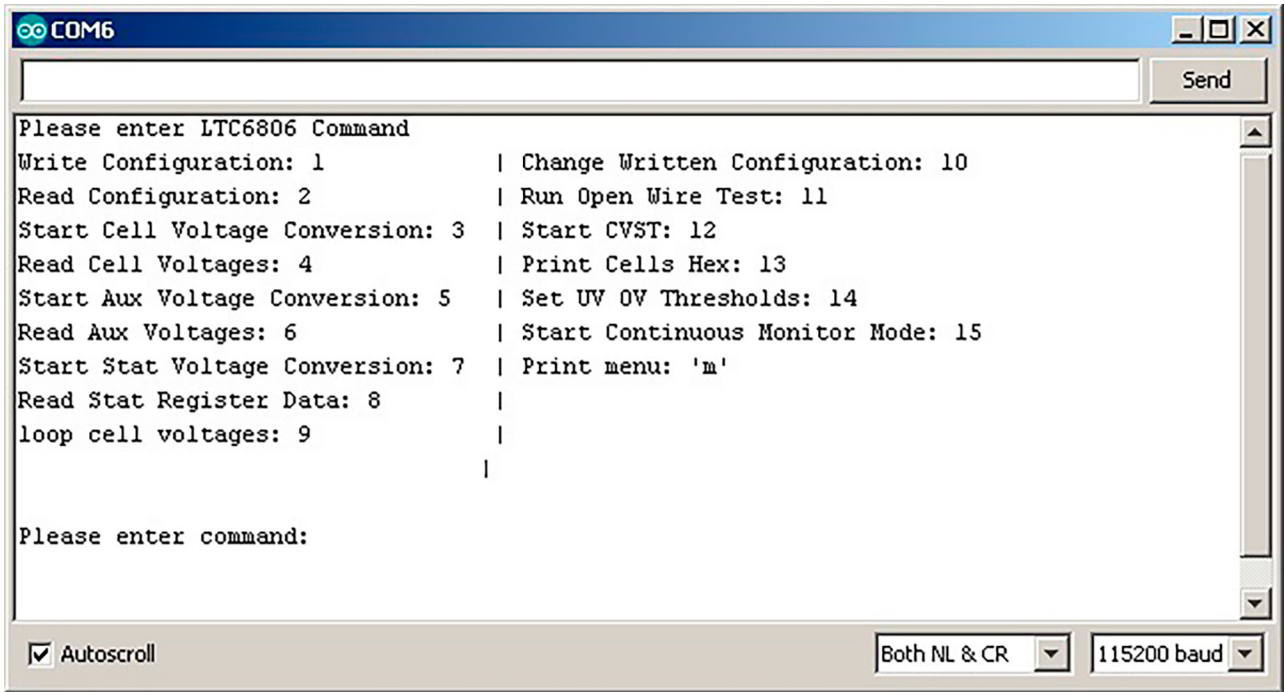

Figure 13. DC2192 Sketch Menu
- As shown in Figure 13, when configured correctly the DC2192 sketch menu will appear.